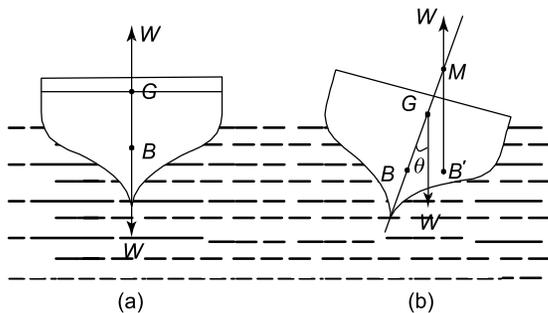

Figure 22.13
For most ships and boats the centre of buoyancy (B) of the vessel is usually below the vessels' centre of gravity (G), as shown in Figure 22.13(a). When this vessel is subjected to a small angle of keel (θ), as shown in Figure 22.13(b), the centre of buoyancy moves to the position B' ,